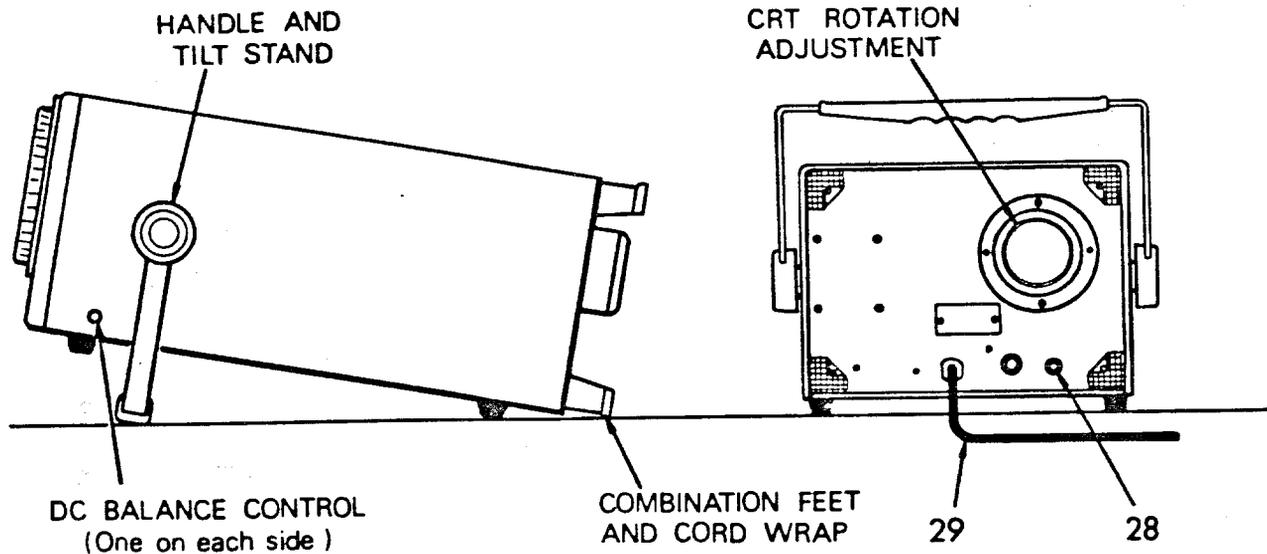

Fig. 2. Rear and side panel facilities.
- 29. **AC Line Cord (See Fig. 2).** CSA-approved for oscilloscopes.